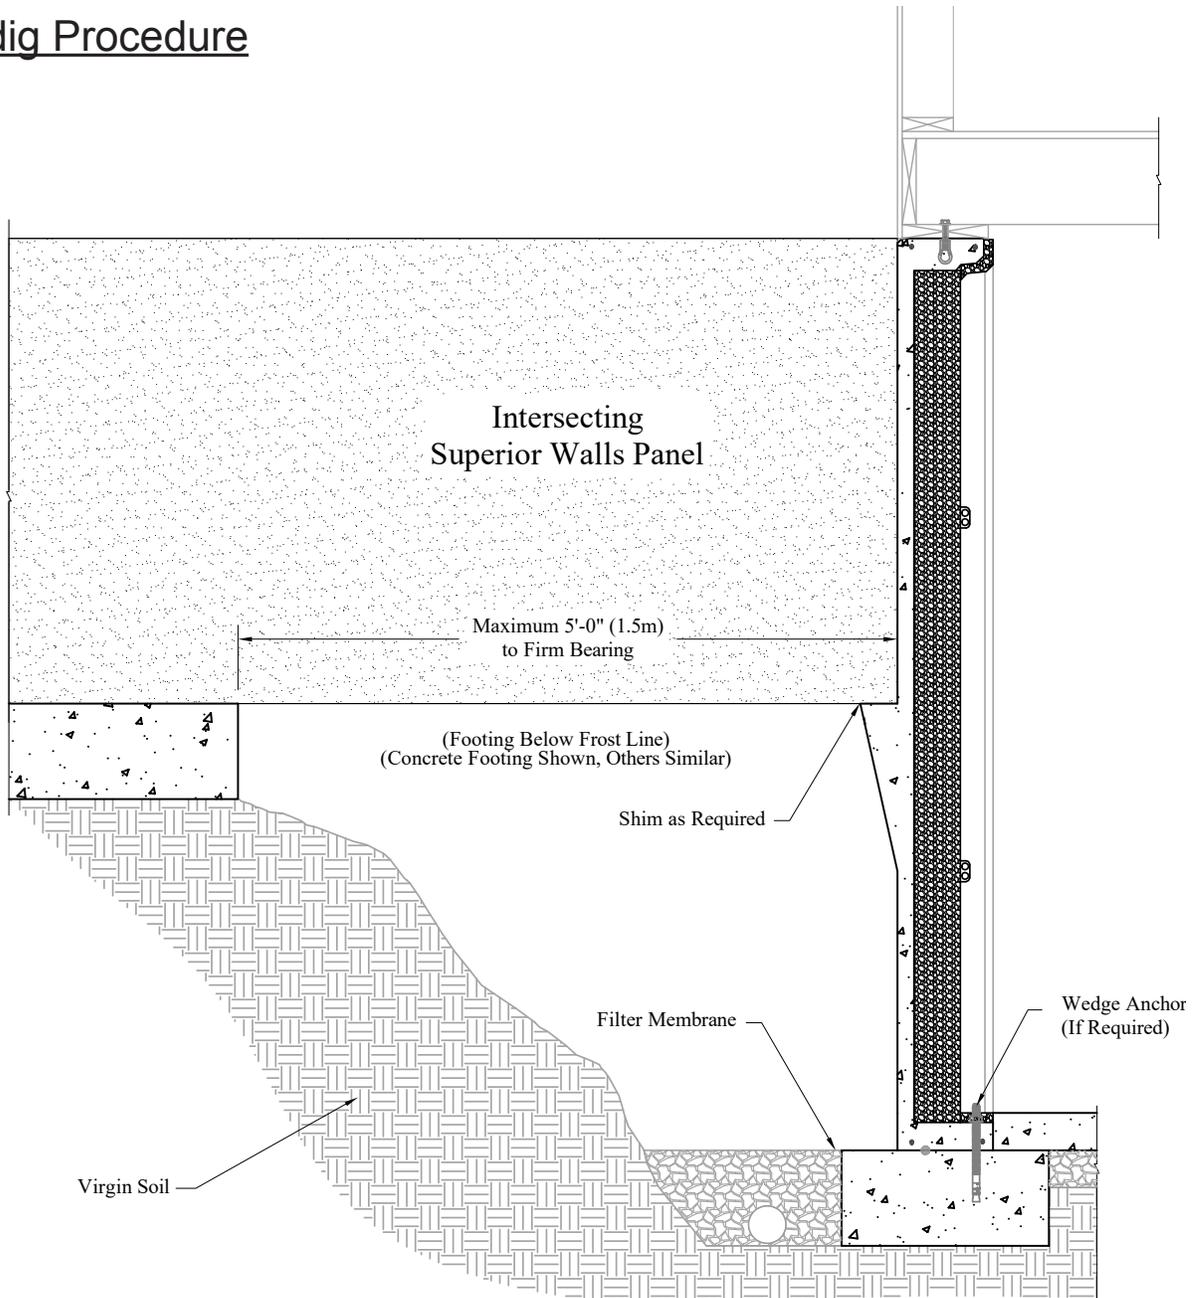

Figure 7
- When a wall such as a garage wall or crawl space wall intersects the basement wall and rests on a precast ledge, the overdig must not exceed 5'-0" (1.5 m). (See Figure 7.)